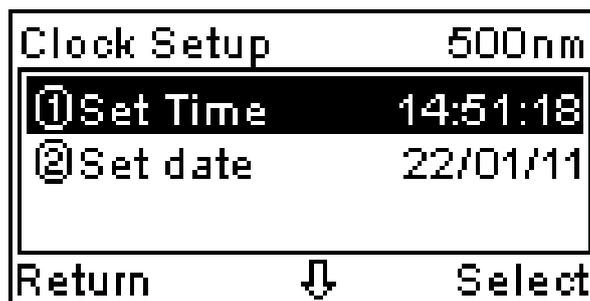

Fig 45
- 【2】** The option “Clock Setup “ is for operator to modify the date and time, Fig 45
Use the numeric key to input new time and then press **【ENTER】**, the screen return to Fig. 45 but with new time display.